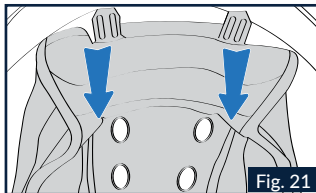

Fig. 21
3.1 Pull the front part of the comfort padding towards the inside of the helmet to release the left and right rear tabs on the liner from the rear edge of the shell (Fig.21).
4.3 Insert the liner rear right and left tabs into their corresponding housings of the shell edge (Fig.21). Push the tabs until they are fully fastened onto the support.